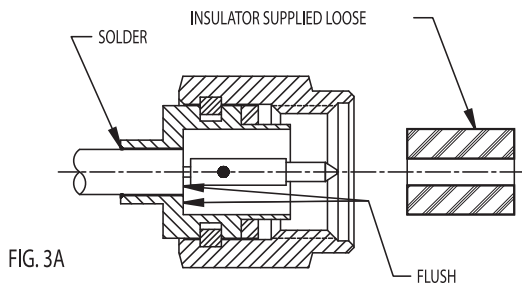

FIG. 3A
3. FOR CONNECTORS WITH INSULATORS SUPPLIED LOOSE: INSERT CABLE INTO BODY UNTIL CABLE IS FLUSH WITH SHOULDER IN BODY. SOLDER CABLE INTO BODY. TRIM ANY EXCESS DIELECTRIC MATERIAL. CLEAN. REFER TO FIG. 3A.